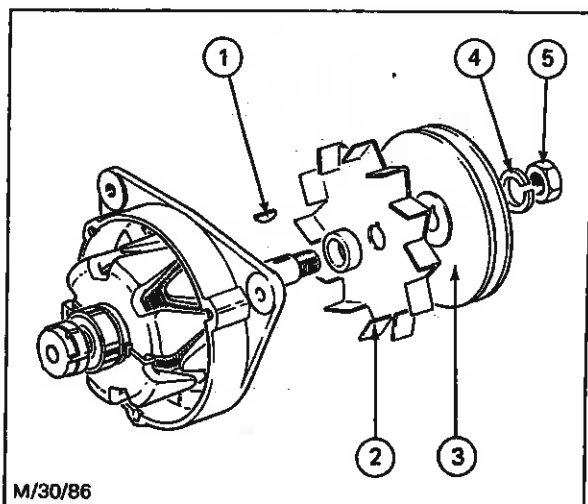

Fig. 39 - Replacing Fan and Pulley
2. Fit the Woodruff key (1) to the shaft and place the fan (2) and drive pulley (3) in position. Secure pulley with the spring washer (4) and nut (5) - see Fig. 39.